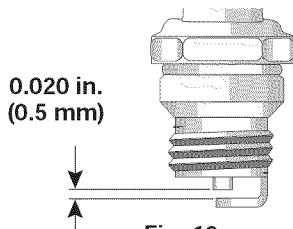

Fig. 19
- Set the air gap at 0.020 in. (0.5 mm) using a feeler gauge (Fig. 19).